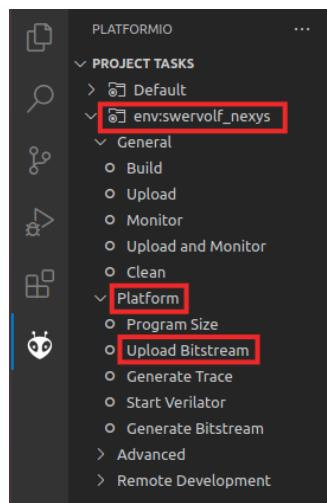

Figure 14. Upload Bitstream
- Then expand Project Tasks → env:swervolf_nexys → Platform and click on Upload Bitstream, as shown in Figure 14. **After one or two seconds, the FPGA will be programmed with the RVfpgaNexys SoC.**